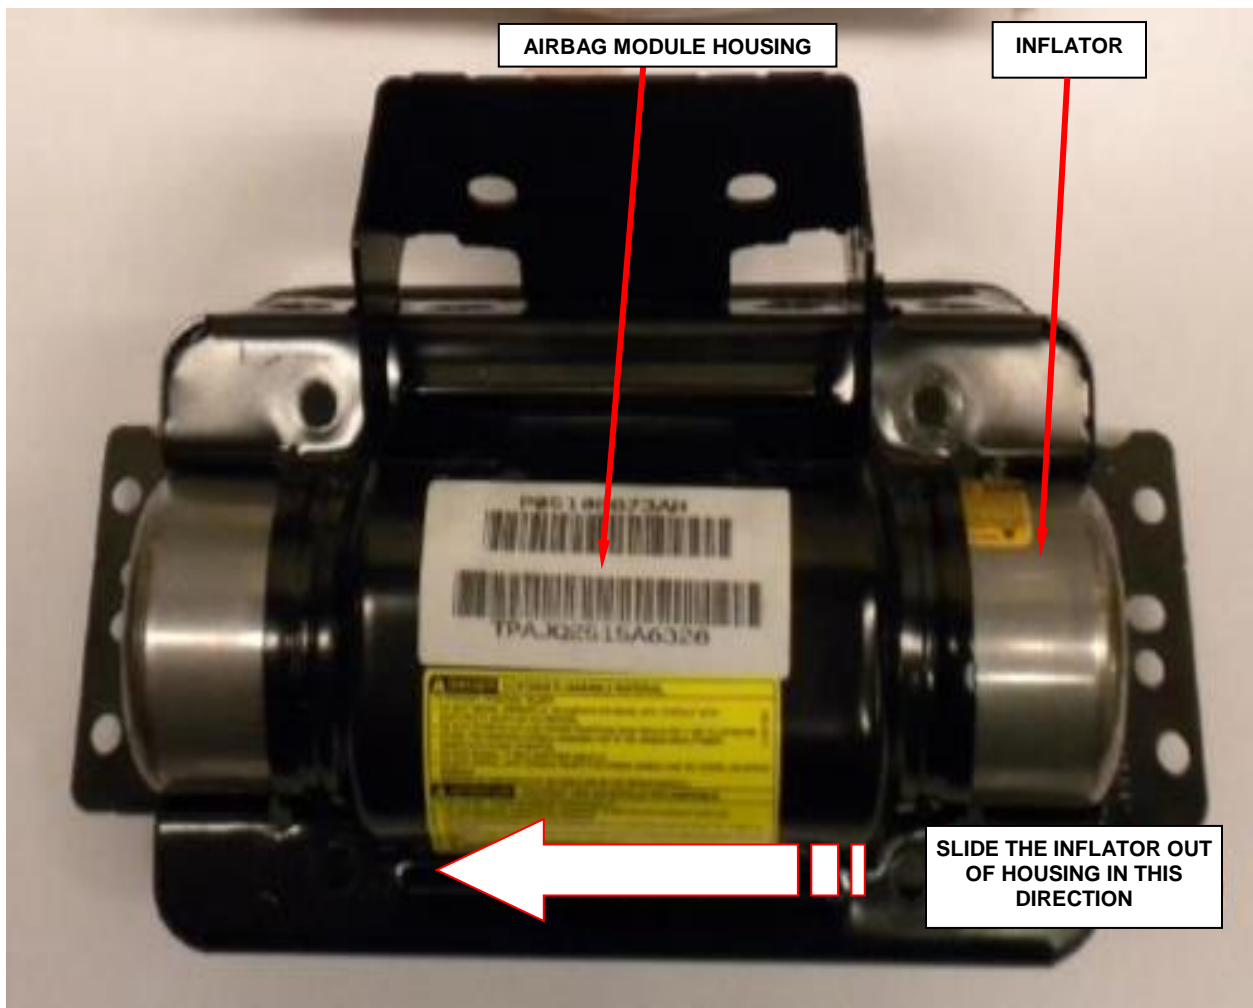

Figure 86 – Remove Airbag Inflator
- k. Slide the inflator out of the passenger airbag module housing (Figure 86).